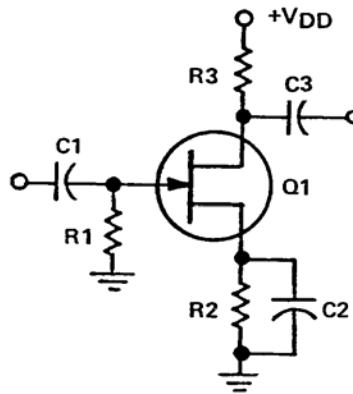

Figure D-1. Common Source Amplifier
a. Distorted Outputs. Refer to Table D-1 and the explanation of the base bias resistor in Figure D-1.
(1) Notice that the base bias resistor affects the Q Point on the load line, which in turn will affect the class of operation of the amplifier.
(2) Another component that can affect the class of operation of the amplifier is the swamping resistor. When the swamping resistor shorts, the emitter is referenced to ground and the base voltage will thus change to roughly 0.7V above the ground reference. This means that the Q point will be 0.7V (C3 can cause the same problem when shorted).
(3) The components that can cause a change in the output as far as class or operation are R1 (base bias resistor), R4 (swamping resistor if shorted), and the transistor itself.
a. Review of Component Functions. Before we discuss waveform troubleshooting of an FET amplifier, we will review the basic component functions of the common source amplifier. Refer to Figure D-1 for the following explanation. R1 develops the input signal, R2 provides self bias for Q1, R3 develops the output as the load resistor for Q1, C1 couples the input signal to the gate of Q1, C2 is the bypass capacitor to prevent inverse current feedback, C3 couples the output from Q1, and Q1 is the active component responsible for the amplification and the phase shift.